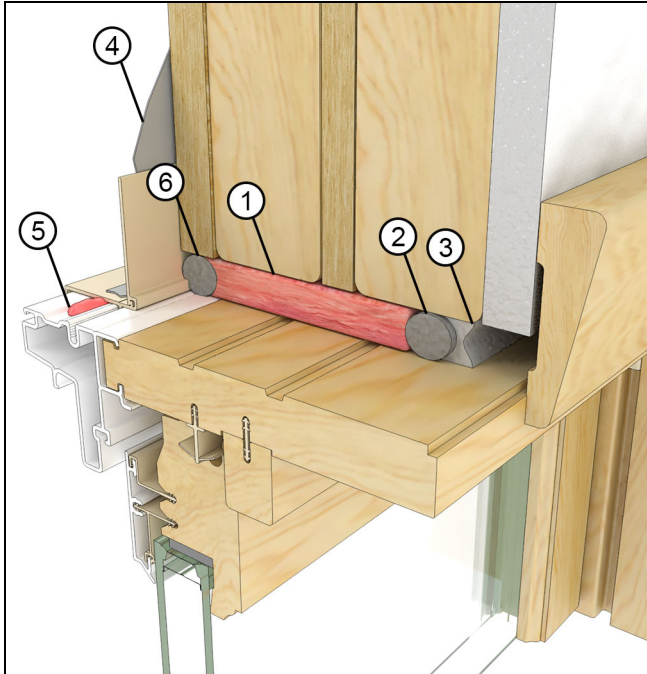

Figure 45
1. Loose Fill Fiberglass Insulation. Insulate the RO cavity with loose fill fiberglass insulation. Install a backer rod and sealant at the interior plane of the RO to create a continuous air seal. See Figure 45.